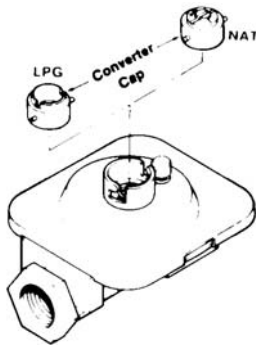

FIGURE 10
1. Remove the cap, push down and turn counter-clockwise. Turn the cap over and reinstall (figure 10).
- a. Change the appliance pressure regulator from natural to LP setting. (See figures 10, 11 or 12).
- a. Change the appliance pressure regulator from LP to natural setting. (See figures 10, 11 or 12).